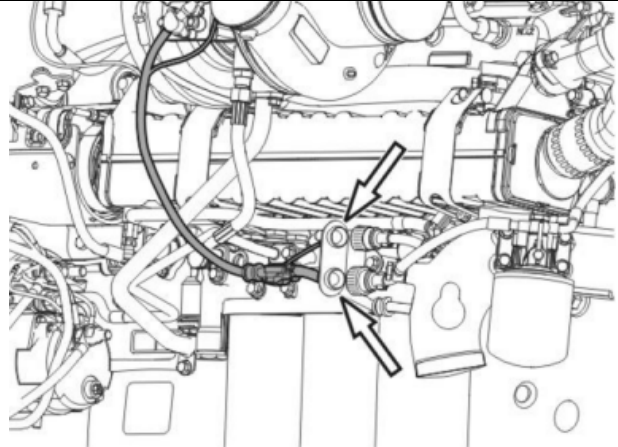

FIGURE 17
19. Connect the actuator electrical wiring harness connector to the engine wiring harness connector. Install tie straps as needed to secure the harness (FIGURE 17).